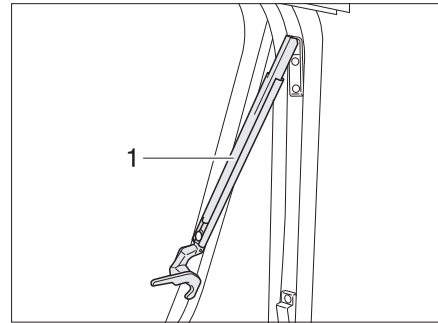

Fig. 39 Hinged window with automatic hinges, open
- Open the hinged window to the desired latched position. The automatic hinge (Fig. 39,1) locks in place automatically.